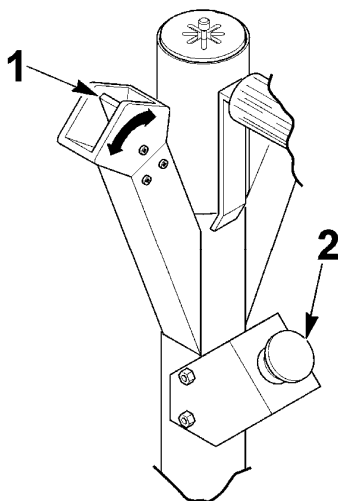

Fig.15
9. To open and close the chuck, operate the appropriate control (#1 Fig.15).